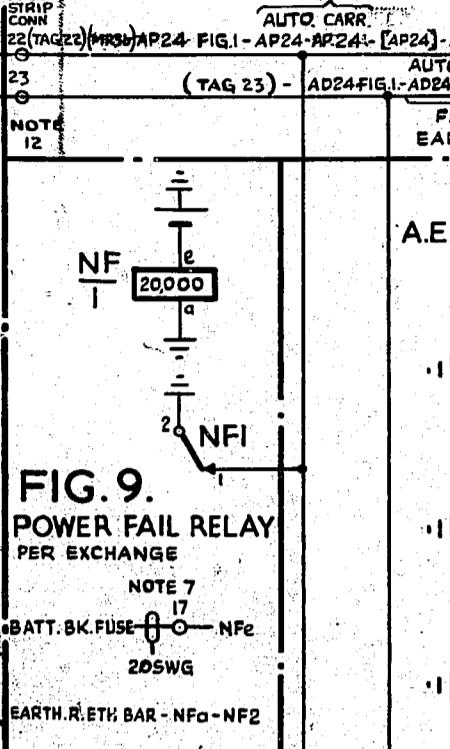

FIG. 5B. AUX. ALM. CUT-OFF
- WHEN 3 AUTO SUB-SECTIONS AND/OR CARRIER SECTION ARE REQ'D. PROVIDE FIG. 5B THIS KEY IS THEN MECHANICALLY COUPLED TO KEYS KCO AND KAE
- FIG. 5B WIRE COLOURS, KEY UNIT & SPRING NOS AND TERMINAL NOS SHOWN IN BRACKETS ARE APPLICABLE TO CARRIER SECTION CONNECTIONS